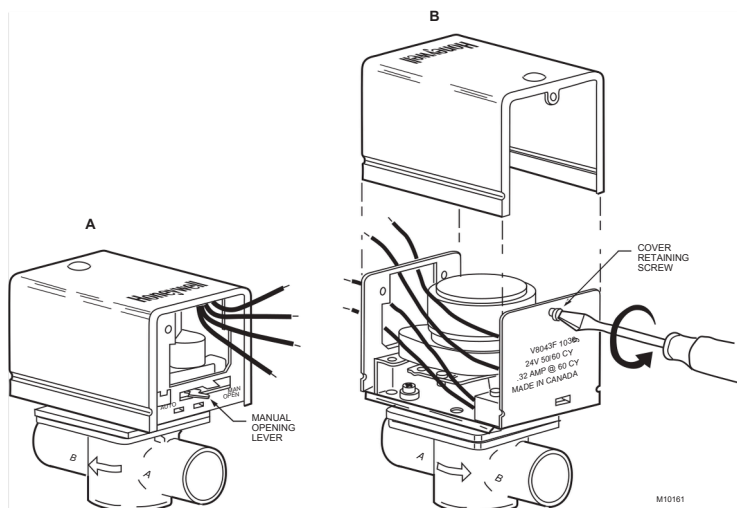

Fig. 7. Remove old powerhead cover from systems using new style valve bodies.
3. Remove the old powerhead (see Fig. 7):